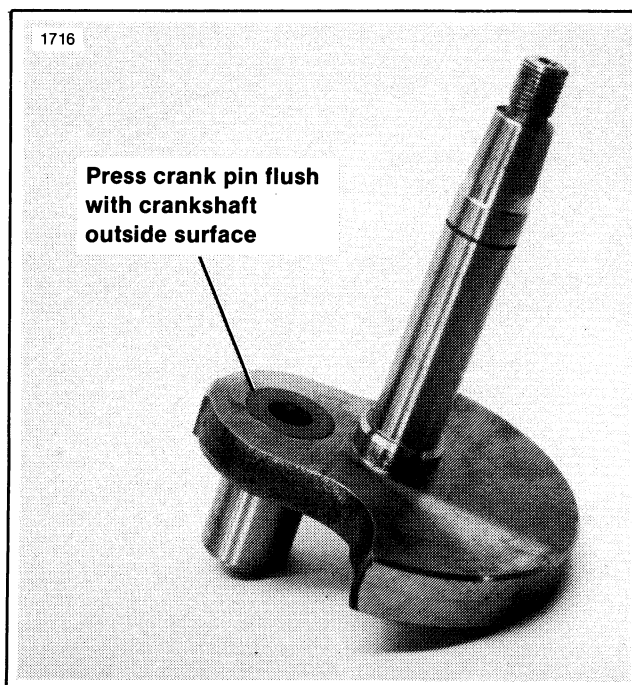

Figure 5-27. Installing Crank Pin
4. See Figure 5-27. Place the other crankshaft on the pin. Align the two crankshafts using a straight-edge, then press the crankshaft assembly together until correct connecting rod side play is achieved. See SPECIFICATIONS at the beginning of this section. Check side play using a feeler gauge. Lubricate the pin (15) and a new bearing (17) with 2-cycle engine oil.